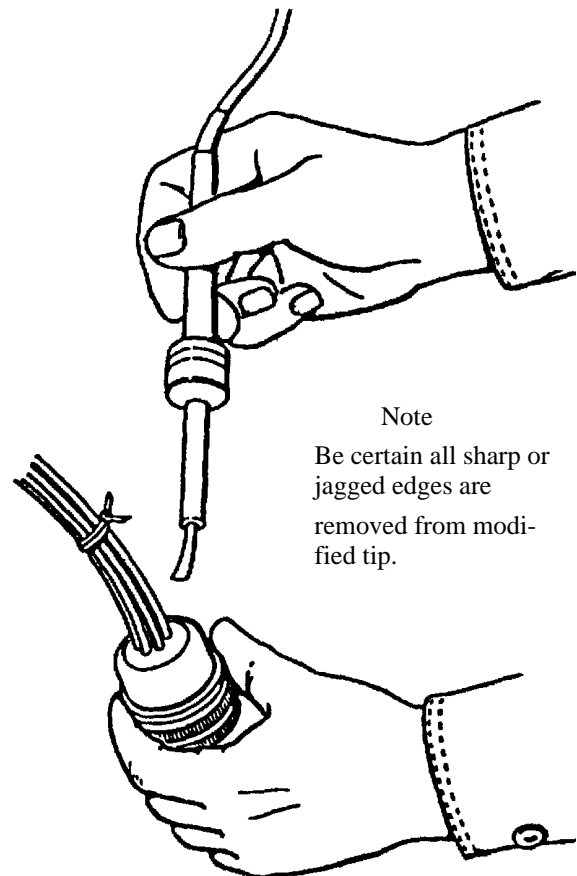

Figure 6. Potting Removal
(4) Fault catalyst or base compound. It is wise to make a 25 gram test sample of each lot of both base and catalyst prior to starting the potting operation.
(5) Organic impurities such as zinc chromatic putty, cleaning solvents or traces of old potting will inhibit cure of MIL-S-23586 potting compounds. Through cleaning will prevent this problem.
a. Using a soldering iron (see para 19) with a modified tip as shown in Figure 6, cut away the potting to gain access to the desired contact(s).